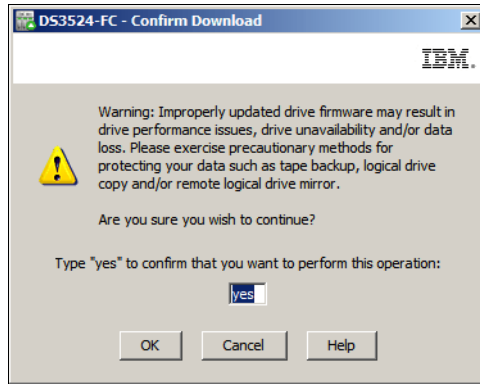

Figure 14-88 Confirm Download
- Click **Finish** to update the drive firmware. A confirmation window appears (Figure 14-88 on page 385). Type yes and click **OK** to start the update.